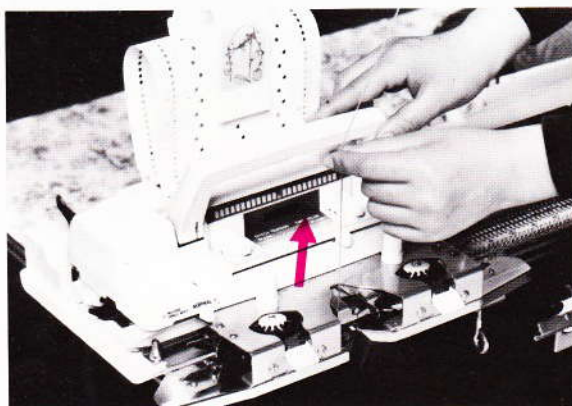

Fig. 145
- Knit 2 rows with the carriage. As the knitting carriage had been pushed out of the way the yarn at the back might have become slack so pull slightly on the yarn to correct the tension (fig. 145).